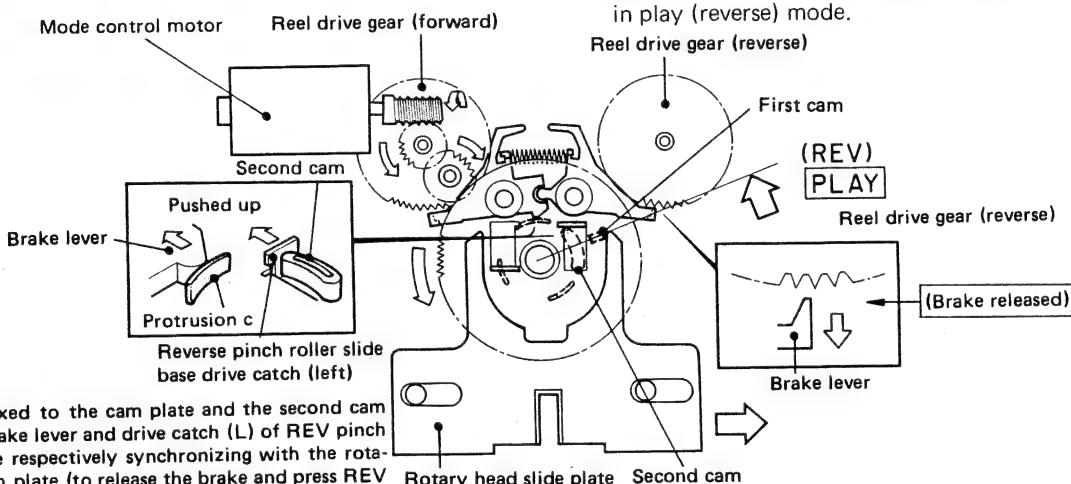

Fig. 7a (rear view)
- 3) On the other hand, the second cam pushes up the drive catch of the reverse pinch roller slide base (left). When the cam disc plate turns to the position in Fig. 7a, the play (reverse) mode code is generated by its associated code pattern. Thus, when the controller detects this code, it acts to stop the mode control motor.
- a) As the brake cam is at the no-braking position as shown in Fig. 7a, the brake is released.